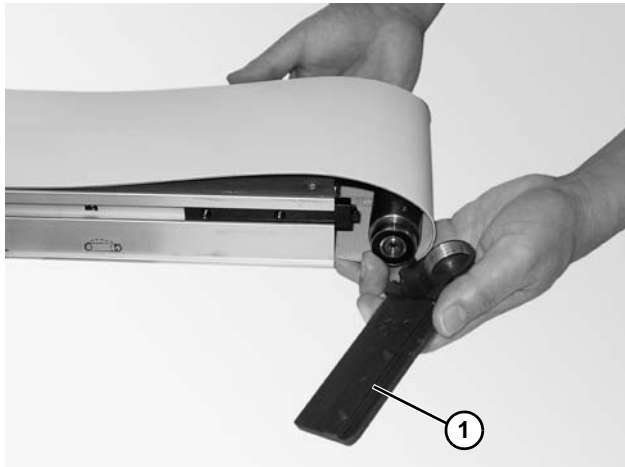

Figure 45
2. Remove the head plate (**Figure 45, item 1**) from the conveyor frame.